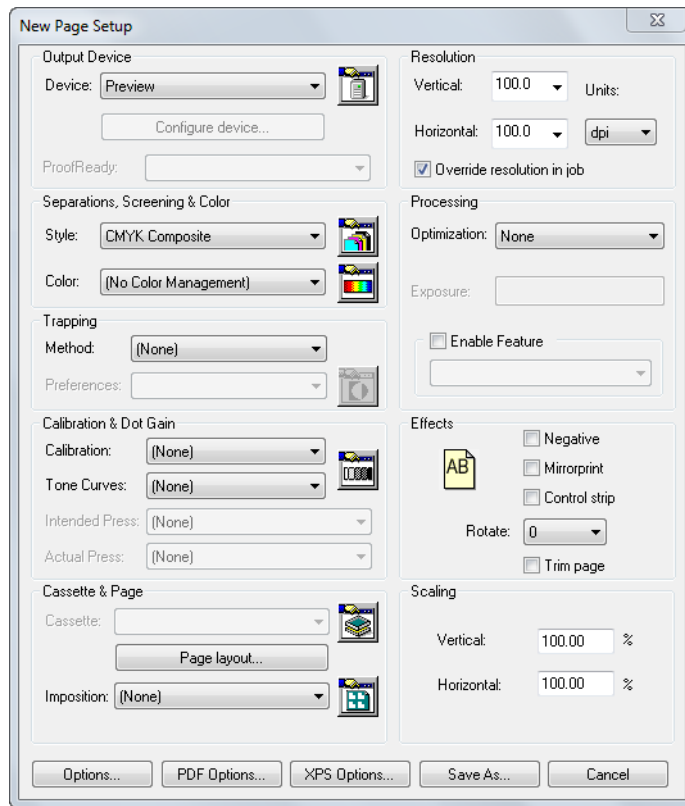

Figure 3.2 New Page Setup dialog box
3. In the Edit Page Setup dialog box, shown in Figure 3.2, set the **Device** to None and the **Vertical** and **Horizontal** resolutions to something small, say 72 dpi. If you change the **Device**, you must choose a separations style listed in the **Style** drop-down list and, for some devices, a cassette name from the **Cassette** drop-down list.
2. In the Page Setup Manager dialog box, select Default Page Setup and click **Copy** to display the New Page Setup dialog box. The New Page Setup dialog box is very similar to the Edit Page Setup dialog box, shown in Figure 3.2 on page page 45.